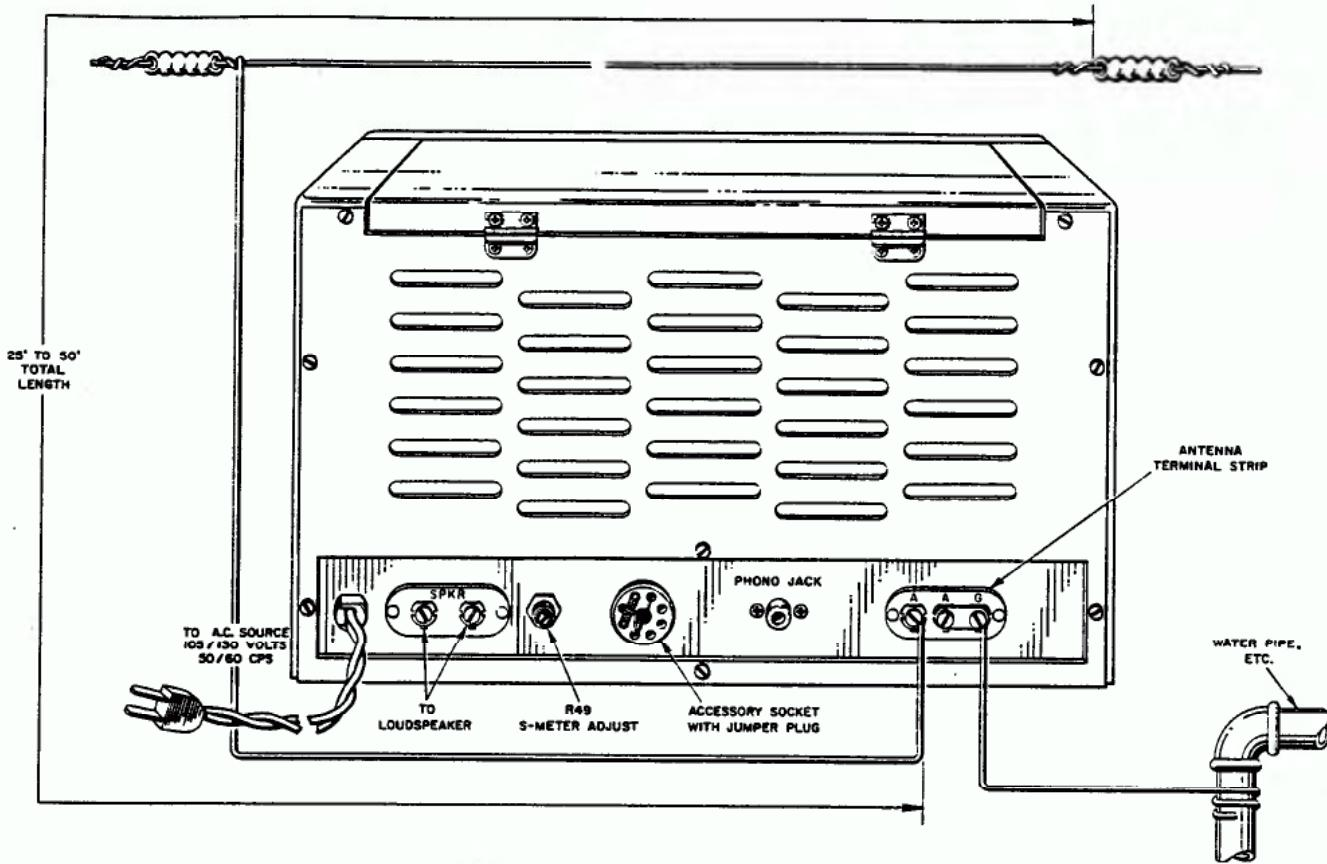

Figure 1. Typical Installation Plan
2. Referring to Figure 1, locate the antenna terminal strip at the rear of the cabinet. Connections to this terminal strip are made by loosening the screw to be used and then wrapping the wire around the screw and tightening with a screwdriver so that the wire is held securely. The method to use in connecting the antenna to the receiver is as follows:
a. Single-Wire Type-The lead-in wire is connected to the left hand A terminal on the antenna terminal strip and the other A terminal is connected to the G terminal by means of the metal link provided (see Figure 1).
The NC-98 is equipped with a phono jack (see Figure 1) which will accommodate a standard phono tip plug so that a record player not equipped with an amplifier may be operated through the audio circuits of the receiver. If the record player has other than a standard phono tip plug, the correct fitting can be readily installed. The NC-98 has a high-impedance phono input circuit and is suitable for use with crystal pickups. Variable reluctance type cartridges cannot be used both because their output is too low without an additional amplifier and special compensation is required for correct tonal reproduction.